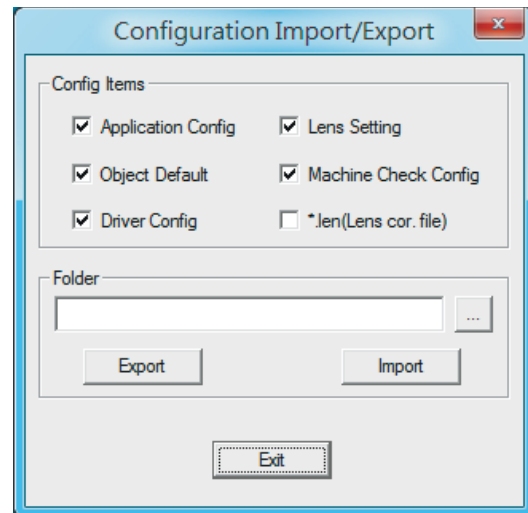

Fig. 1.1.70
1. Click on “File”→ “Configuration Import/Export” to bring out dialog seen as fig. 1.1.70.
3. If file is already existed, will pop-up a dialog to confirm to replace, skip, or rename the file. See fig. 1.1.70.